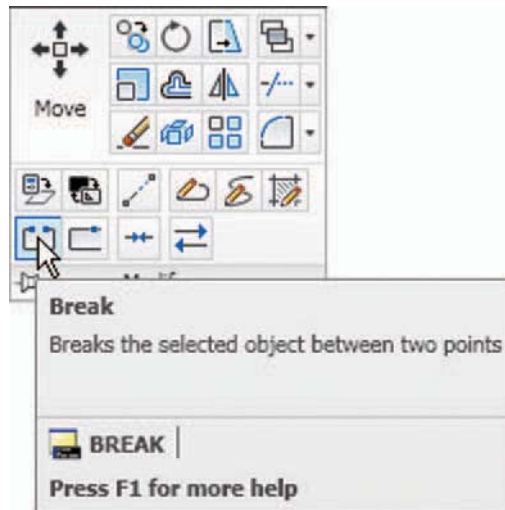

Fig. 5.35 The **Break** tool icon from the **Home/Modify** panel
2. Call **Break** – either *click* on its tool icon in the **Home/Modify** panel (Fig. 5.35), *pick* its tool icon in the **Modify** toolbar, *click* **Break** in the **Modify** drop-down menu, or *enter* **br** or **break** at the command line, which shows: